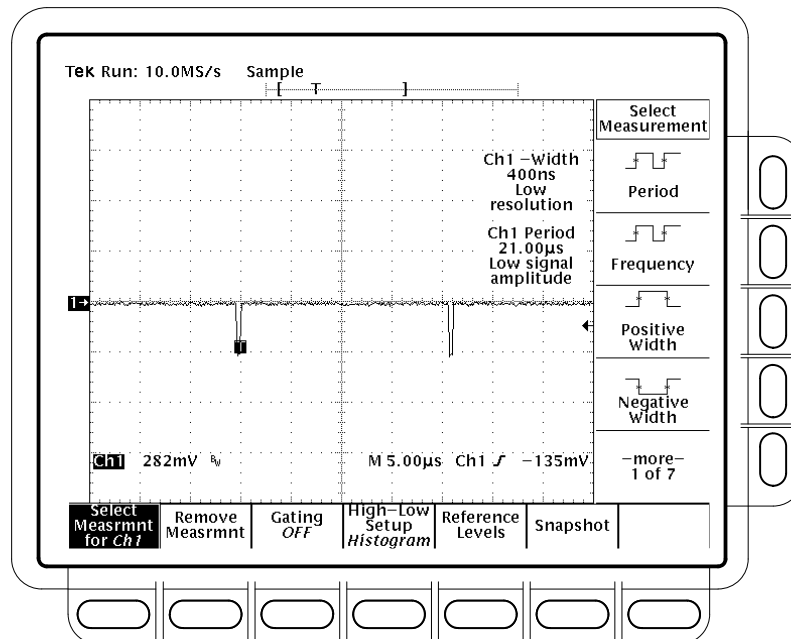

Figure 4-39: Sync Duty Cycle Test: Critically Adjusted Pulse
- Turn the pulse generator **PERIOD** variable control to adjust the period until the oscilloscope **CH1 Period** measurement reads **21.000µs -25/+50 ns**. See Figure 4-39. Read note shown below.